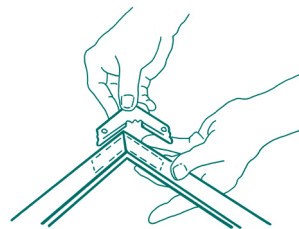

Fig. 2a Stake fits in corner of frame
1. Insert the corner stakes and join the frame together. See figs. 2a and b. If a little force is required to get it together, use a block of wood between the frame and the hammer to prevent damage.